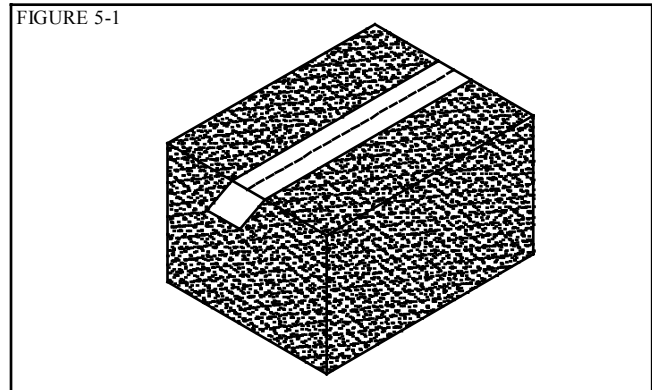

FIGURE 5-1
1. When the tape is applied too tightly on the carton, the film will stretch causing the adhesive to give way on the overlap. [Fig 5-1]